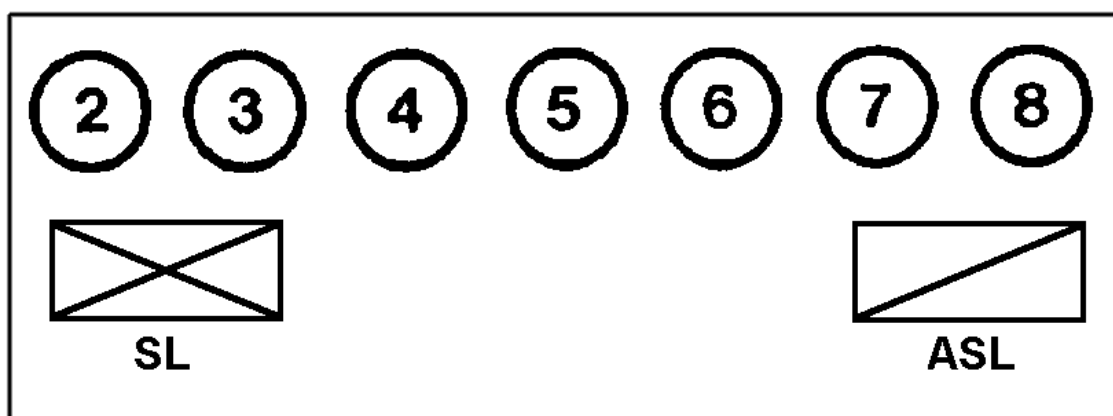

Figure 191-378-4302-1
2. Direct the squad in forming a squad line (Figure 191-378-4302-1).